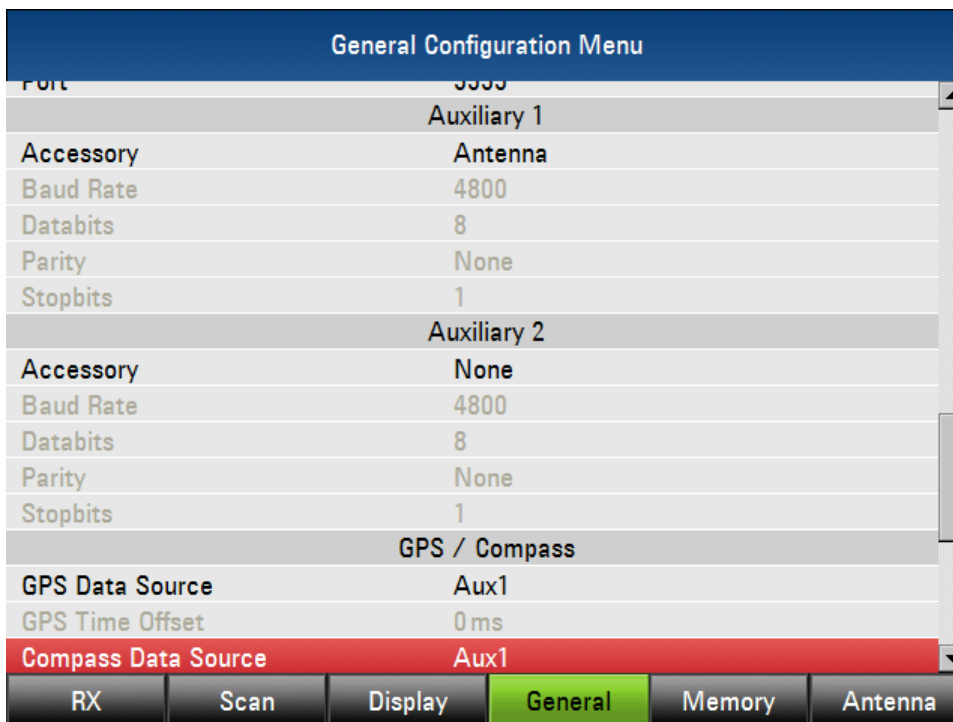

Fig. 3-38: Configuration for HE300 Antenna
- Press the CONF key (5)
- If GPS Compass option is installed, configure the "GPS Data Source" and "Compass Data Source" as shown in figure 3-38